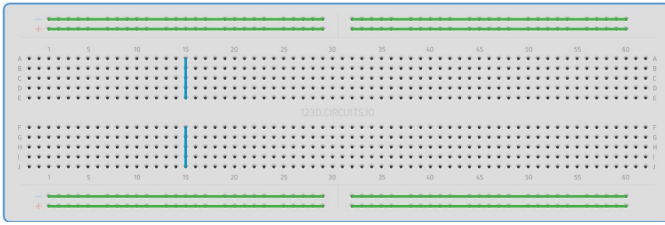

Fig. 1
**Problem 2.1.** Plug the display to the breadboard in Fig. 1 and make the connections in Table II. Henceforth, all 5V and GND connections will be made from the breadboard.